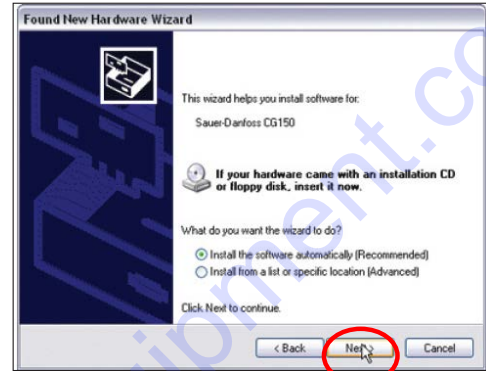

Figure 17. CAN Driver Installation
4. When the CAN Gateway cable is connected to the laptop for the first time, it is necessary to install the CAN driver software. The installation screen will appear (Figure 17). Click "Next" to install the software automatically (default).